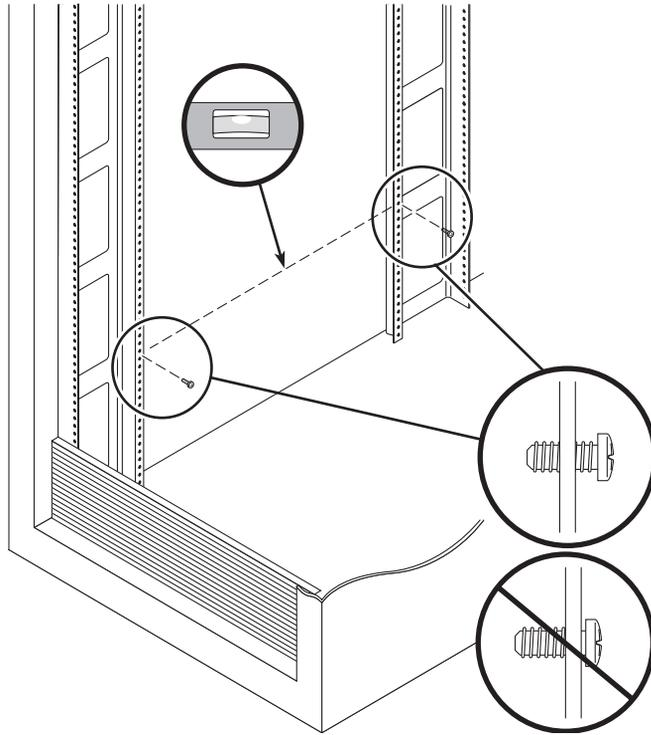

FIGURE 2-3 Inserting Screws in the Front and Back Cabinet Mounting Holes
2. Insert four 10-32 screws (two per side) in the front and back mounting holes of the cabinet (FIGURE 2-3). Do not tighten at this time. You will hang the side rails on these screws.